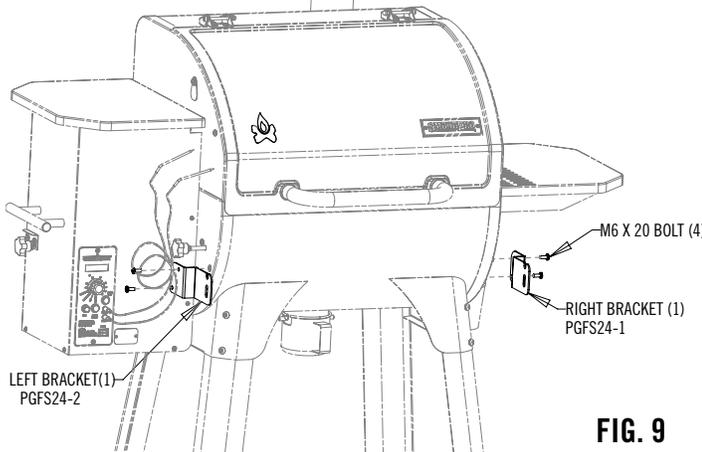

FIG. 9
3. Install the brackets as shown in Fig 9.